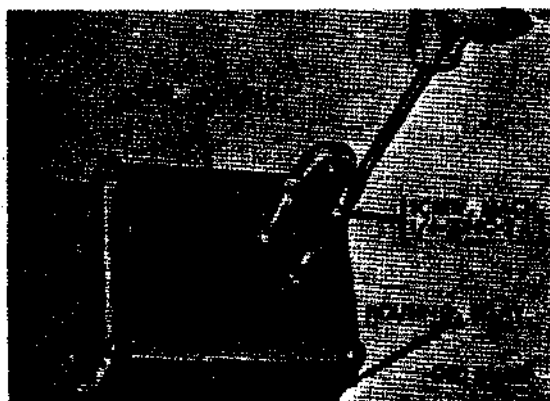

Figure 90. Removal of control relay housing cover
- (c) Remove four machine screws and lockwashers, attaching housing cover to relay housing (fig. 90). Remove cover and gasket. Discard gasket.